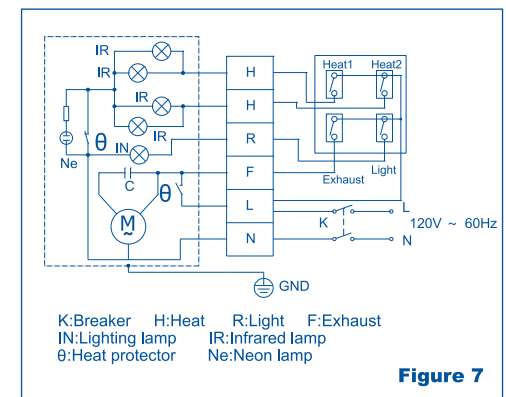

Figure 7
2. Make wire connections with the terminal block as Figure7.
3. Connect the other end of interconnecting wire with the switch panel (Figure7).